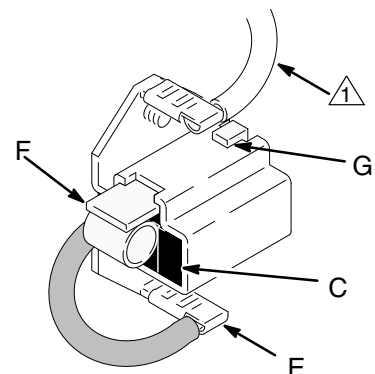

Fig. 16
6. Holding the spring clip (F) at a slight angle, slide the spring clip into the brush holder and hook it over the end of the holder. See Fig. 16. Pull on the spring clip to be sure it stays in place. Connect the brush lead to the blade connector (E).
- a. Remove the pump connecting rod pin (17).